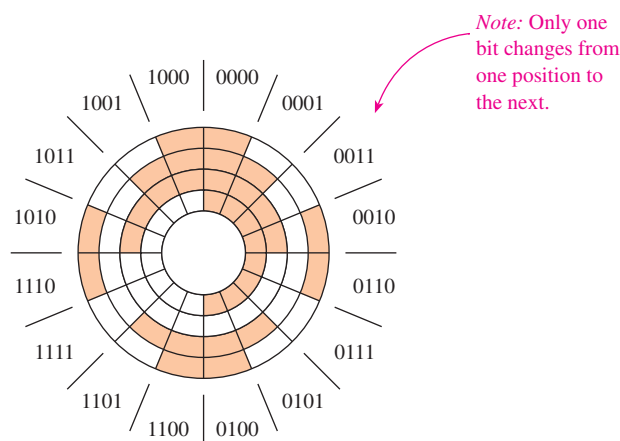

Figure 8-39 Gray code wheel.
to the next and from the last entry (15) back to the beginning (0). Now, if each Gray code represents a different position on a rotating wheel, as the wheel turns, the code read from one position to the next will vary by only 1 bit (see Figure 8-39).